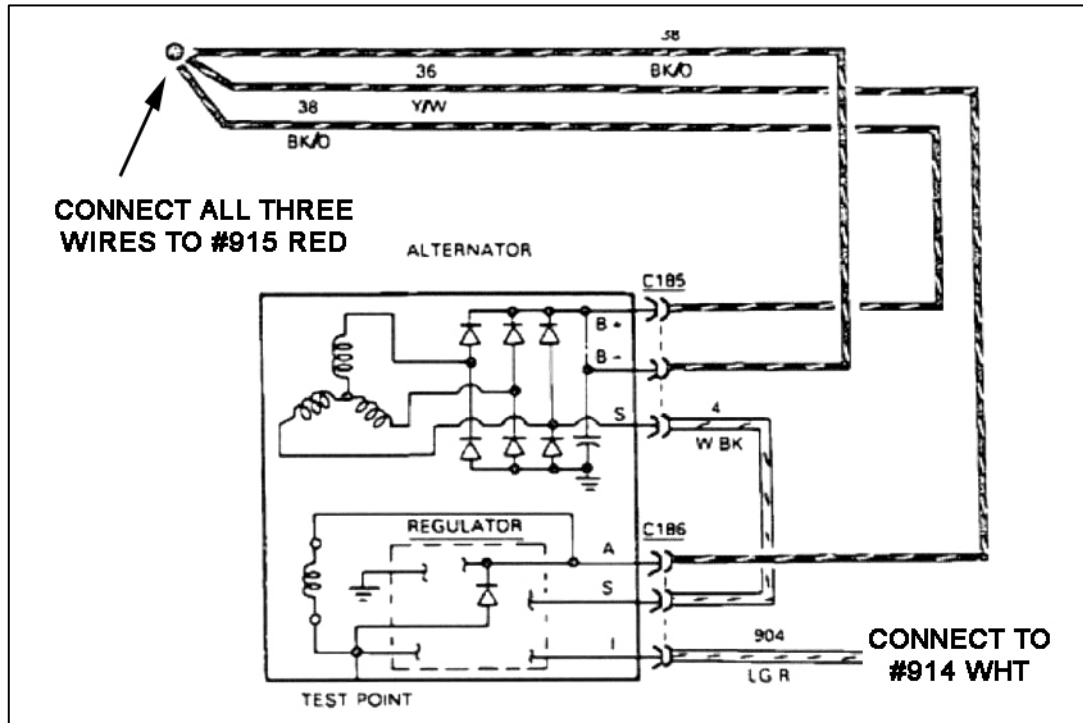

Figure 8-1C Ford Internal Regulator Alternator
- 8.1.6** Connect ENGINE SECTION wire #915 RED to three wires as noted in **Figure 8-1C**.
- 8.1.7** Connect ENGINE SECTION wire #914 WHT to the Light Green/Red stripe wire as noted in **Figure 8-1C**.